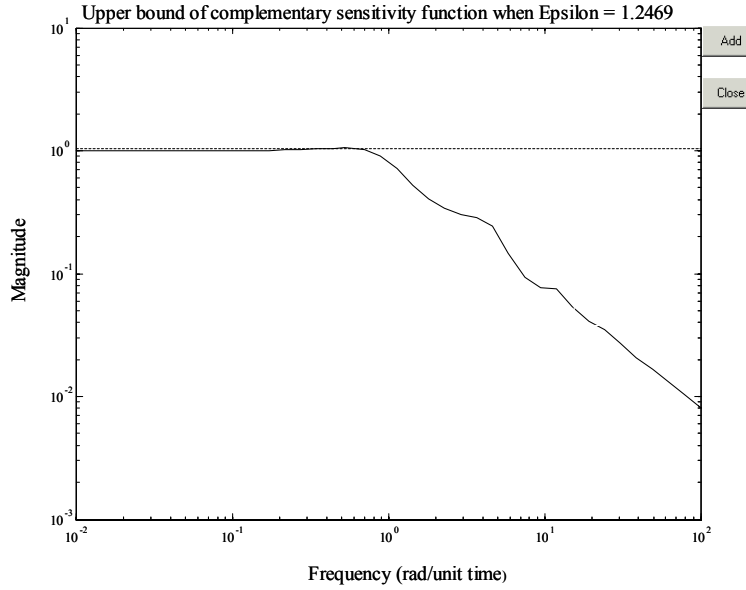

Figure G.10 Results from Mp Tuning of Eq. (G.1) for Mp = 1.05.
- **Tuning:** Computes filter time constant via Mp Tuning (see Chapter 7). Figure G.10 shows the tuning results for an Mp specification of 1.05 for Eq. (G.1).
- **Frequency response:** Computes upper- and/or lower-bounds for the sensitivity or the complementary sensitivity functions. Individual process frequency responses can be added to the upper and/or lower-bounds results via the add button (see Chapter 7 and Figure G.10).